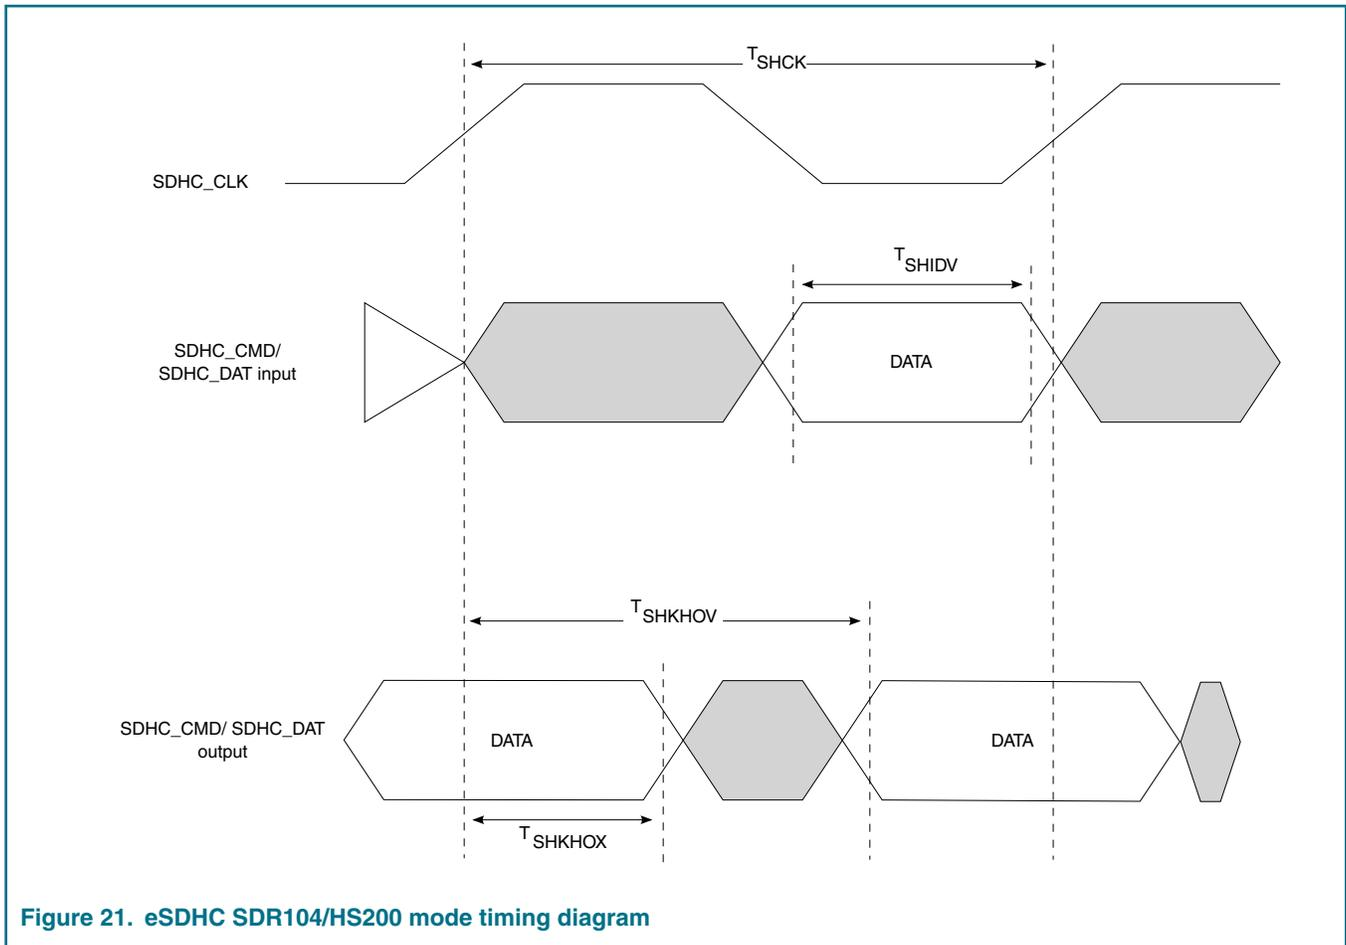

Figure 21. eSDHC SDR104/HS200 mode timing diagram
2. The symbols used for timing specifications herein follow the pattern of t_{(first two letters of functional block)(signal)(state) (reference)(state)} for inputs and t_{(first two letters of functional block)(reference)(state)(signal)(state)} for outputs. For example, t_{SHKH0X} symbolizes eSDHC highspeed mode device timing (SH) clock reference (K) going to the high (H) state, with respect to the output (O) reaching the invalid state (X) or output hold time. Note that in general, the clock reference symbol is based on five letters representing the clock of a particular functional. For rise and fall times, the latter convention is used with the appropriate letter: R (R for rise) or F (F for fall).
3. See Figure 21. on page 95.